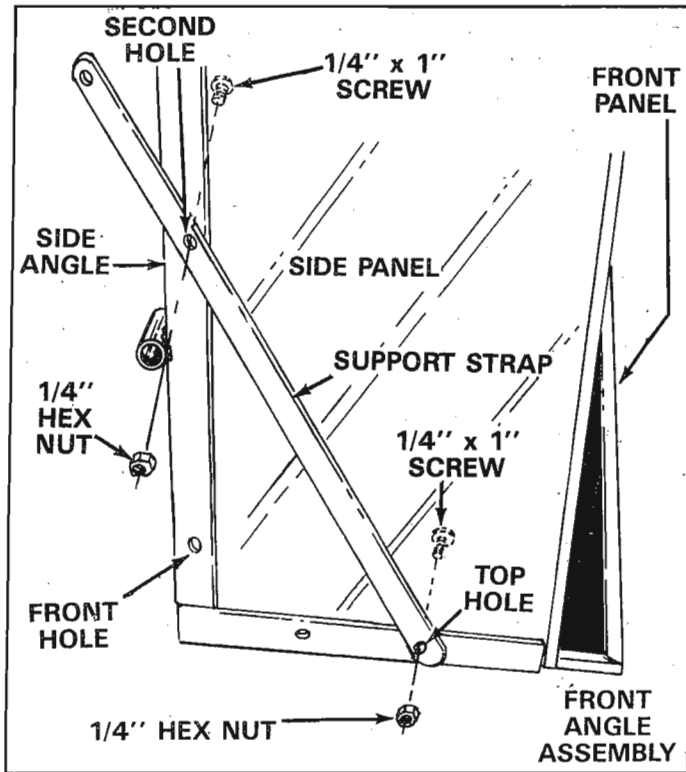

FIGURE 6
- Place one side panel in position, against side angle and down on top of front panel. Start one 1/4" x 1" truss head screw through the **second hole** in side panel, support strap and side angle. Secure with hex nut. See figure 6. **Make only finger tight as this time.**
- Assemble one 1/4" x 1" truss head screw through top hole in side panel, support strap and front angle assembly, then remove hex nut from screw assembled in step 9, next place support strap over these two screws and secure with hex nuts. See figure 6. **Make only finger tight at this time.**
- Assemble one 1/4" x 3/4" truss head screw through bottom hole in side panel and front angle assembly and another 1/4" x 3/4" truss head screw through front hole in side panel and side angle. Secure with flat washers and hex nuts. See figures 6 and 7. **Make only finger tight at this time.**